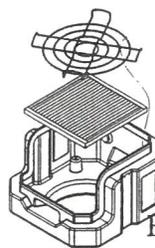

Figure 5.
- f. Orient the pre-filter holder to provide secure compression fit for the selected pre-filter pack. (Fig. 5).